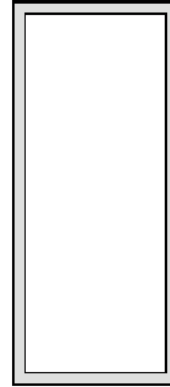

Figure 18. Solder Paste Application on Pins
5. The aperture opening for the signal pads should be between 50–80% of the QFN pad area as shown in Figure 18.